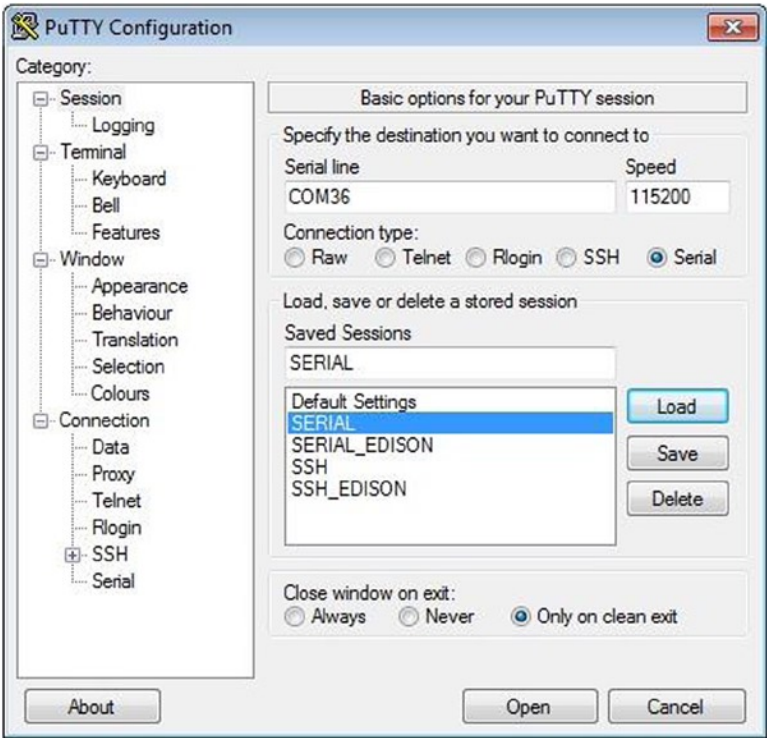

Figure 1-21. Configuring putty to open the Linux console
4. Execute putty. Select the Serial protocol and enter the COM port number. Then click the Open button, as shown in Figure 1-21.